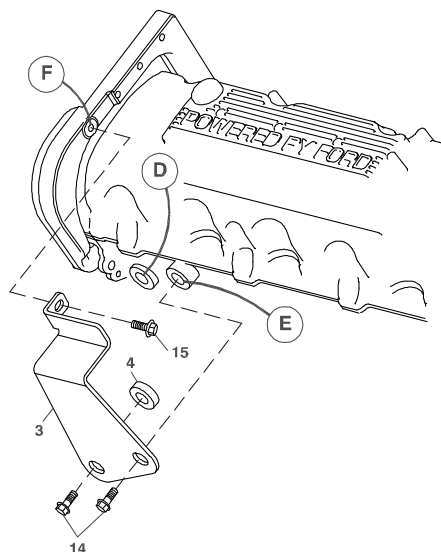

FIG. 7
3. Remove the air tube connecting the air filter box to the intake box on top of the engine. Drain just enough of the engine coolant to remove the upper radiator hose from the engine water neck. Insert the hose splice (28) into the OEM radiator hose, push the short piece of radiator hose (29) onto the splice and onto engine with two 1.5" hose clamps (30). Unclamp the hose from the top front of the coolant tank (Location M), thread it between the power steering reservoir and the fan shroud and connect it back to the coolant tank. Replace coolant.
4. The supply hose for the power steering pump must be rotated to clear the new belt routing. Hold the spring clamp with locking pliers, and rotate the hose as far towards the driver side fender as possible. Using a cable tie (31), secure the steering hose to the radiator hose running between the coolant tank and the radiator. On 2012 and newer trucks, pull the wiring cable from the attachment point on the front of the driver's side valve cover at Location P, Fig. 7. Cut off that tab from the cover to give clearance for the belt.
5. Remove the rear bolt from the airbox attached to the fender and place the 1/2" heavy washer (8) between the airbox and the fender to angle the outlet tube forward. Reinstall the OEM bolt.
6. Remove the three bolts on the lower portion of engine at Locations G, H, and J. Install the idler bracket (2) with two M8 x 65 hex head bolts (12) and two M8 flat washers (17) at Locations G and J. Insert the M8 x 60 low head socket head bolt (11) at Location H. Install the flat idler (6) with 3/8 x 1 1/2 bolt (16) and 3/8 flat washer (18) at Location L.
7. Install the pump bracket brace (3) to the two large threaded holes on the side of the cylinder head at Locations D and E, placing the bushing (4) between the front hole and the bracket using M16 x 35 flange bolts (14). Do not completely tighten.
8. Remove the OEM flat idler at Location K. Remove the OEM stud bolt holding the wiring clip at Location N. Let the wiring rest below the pump. Remove the three bolts at locations A, B, and C. Install the pump bracket (1) with three M8 x 50 hex bolts (13) and three M8 flat washers (17). Fasten brace to pump bracket with 3/8 x 3/4 flange head bolt (15) through brace into back of pump bracket. Tighten all the bolts on the brace. Install the 6-groove idler (7) at Location K with the OEM bolt.
9. Mount the pump (10) to the back of the pump plate (5) with two 3/8 x 1 1/4 bolts (21) and two 3/8 flat washers (22). Install fittings to pump, then install pump plate with three 3/8 x 1.25 socket head bolts. Mount the clutch coil (10a) to the pump bracket with four 1/4 x 1/2 flange bolts (10b). Mount the clutch pulley (10c) to the pump shaft with the 5/16 x 1 1/4 bolt (10d) and heavy flat washer (10e) making sure the key is in place on the shaft.
10. Install belt (32) according to diagram.
11. Place elbow (25) onto airbox with 3.5" clamp (26). Insert DewEze air tube (23) into elbow using a 3.5" clamp (26). Place 3.5" end of reducer onto air tube using 3.5" clamp (26), also pushing 4" end onto air intake using the 4" clamp (27). Make sure there is clearance between the air tube and the clutch. Adjust the air tube and elbow by twisting them if needed.